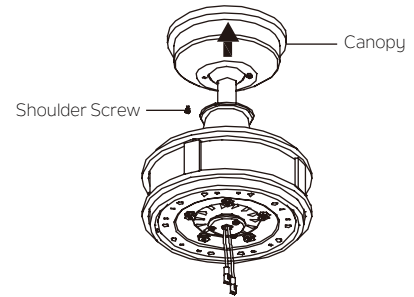

Fig. 17
Step 1. Assemble canopy by rotating key slot in canopy over shoulder screw in mounting bracket. Tighten shoulder screw. Fully assemble and tighten second shoulder screw that was previously removed. (Fig. 17)